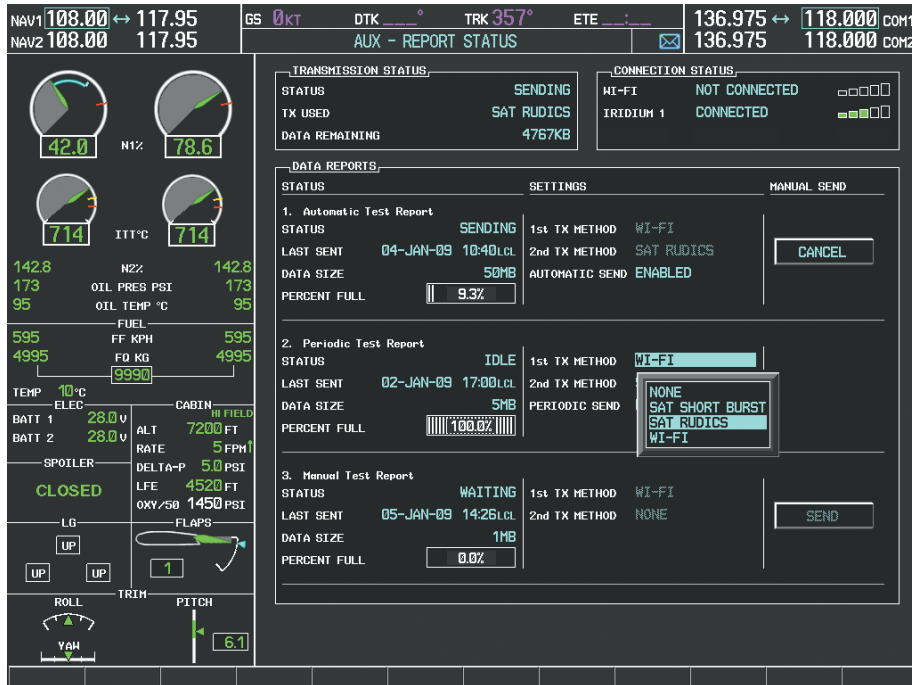

Figure 8-115 Select Transmission Method
- 3) Turn the small **FMS** Knob to select the desired option (SAT SHORT BURST, SAT RUDICS, WI-FI, or NONE) as shown in Figure 8-115. Sat Short Burst is generally used for transmission of data packets less than 300 bytes. Wi-Fi is used only when the aircraft on the ground and the system is connected to a Wi-Fi network.